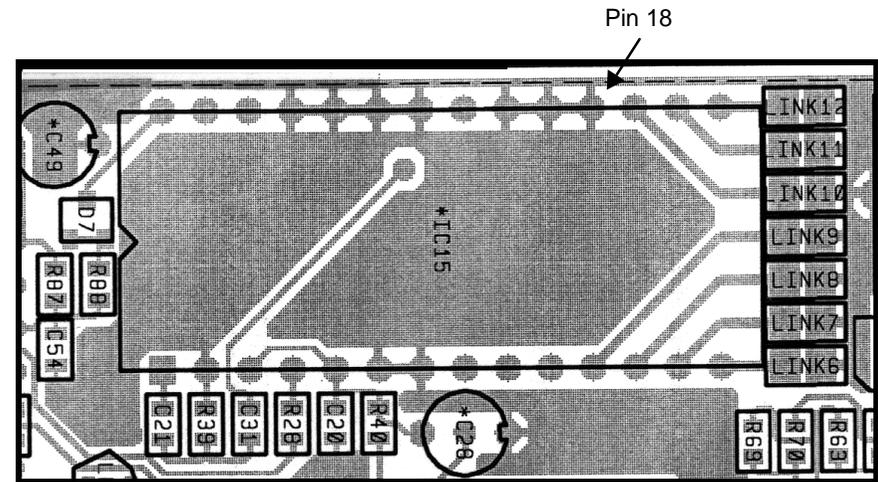

Figure 7 T800-35 Location of Pin 18 - Top Side
- Cut pin 18 (shown in Figure 7) approximately half way down the pin and bend it away so that its logic level floats high.